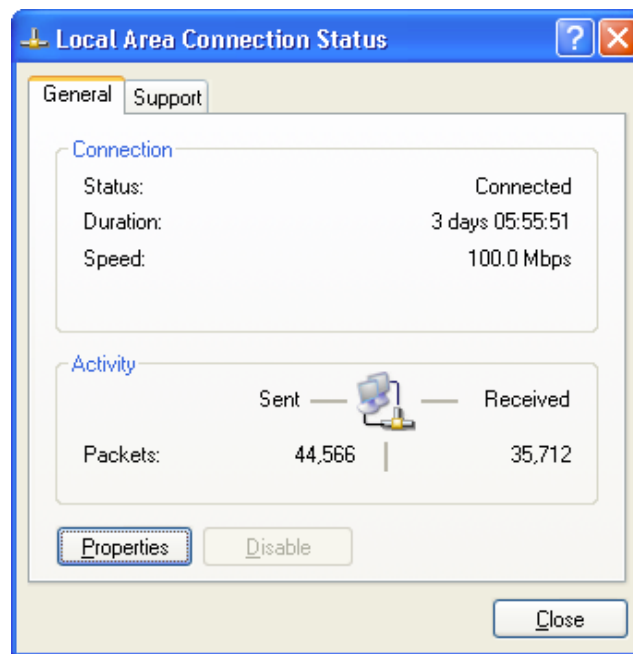

Figure 4. The Local Area Connection Status Dialog
2. In the panel labeled **LAN or High-Speed Internet**, double-click the **Local Area Connection** icon. The **Local Area Connection Status** dialog box appears, as shown in Figure 4.
5. Enter values for the IP address and subnet mask to match those shown in Figure 4. Leave any remaining fields blank. In this example, an IP address of 192.168.1.21 and a subnet mask of 255.255.255.0 are being assigned to the PC. These values place the PC on the same network as the ZPAKII unit, and do not conflict with the IP address of ZPAKII.